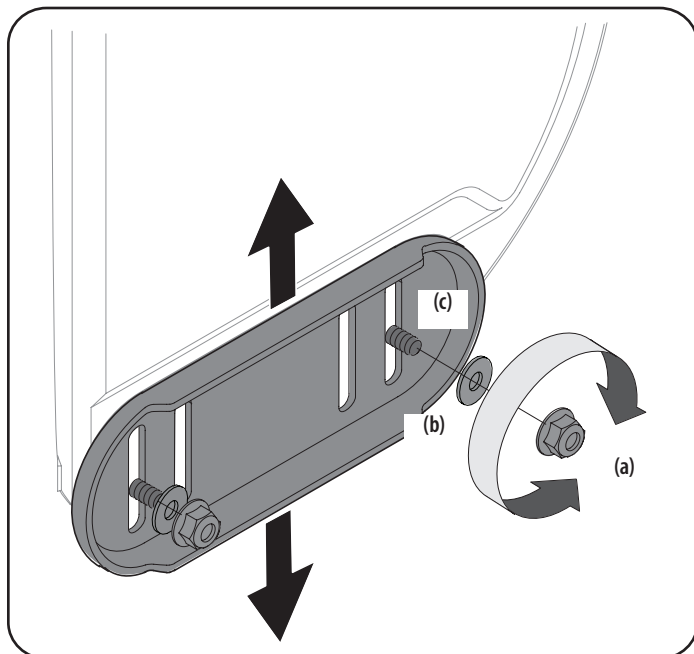

Figure 13
1. Loosen four flange lock nuts (a) (two on each side), washers (b) and carriage bolts (c). Move skid shoes to desired position. See Figure 13.
3. Retighten flange lock nuts (a), washers (b) and carriage bolts (c) securely. See Figure 13.